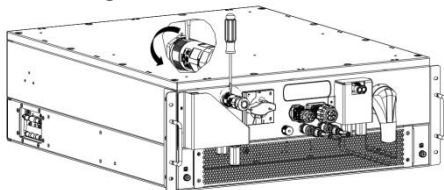

Figure 6-11-7 Dismantling the wiring harness
- 7) When dismantling the wiring harness, use a straight screwdriver to press against the buckle and rotate the wiring terminal according to the UNLOCK mark as shown in Figure 6-11-7.